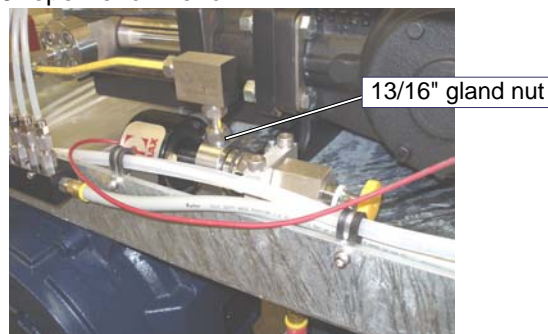

Figure 3: Remove the Gland Nut from the ADO.
3. Disconnect the nipple from the ADO by unscrewing the gland nut on the high-pressure tubing (Figure 3) using the 13/16" open-end wrench.